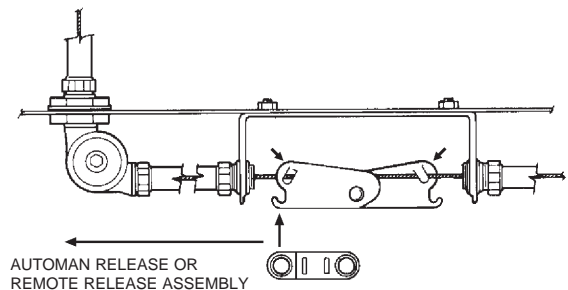

FIGURE 5-28
- Install detector scissor assembly as shown in Figure 5-28. Note that the AUTOMAN release or remote release assembly is located on the left side of the detector bracket. **Slightly** crimp the two assembly “boot-hooks” over the cable with pliers so the cable is captured under each hook but the whole assembly can move from side to side. Center the assembly in the detector bracket.